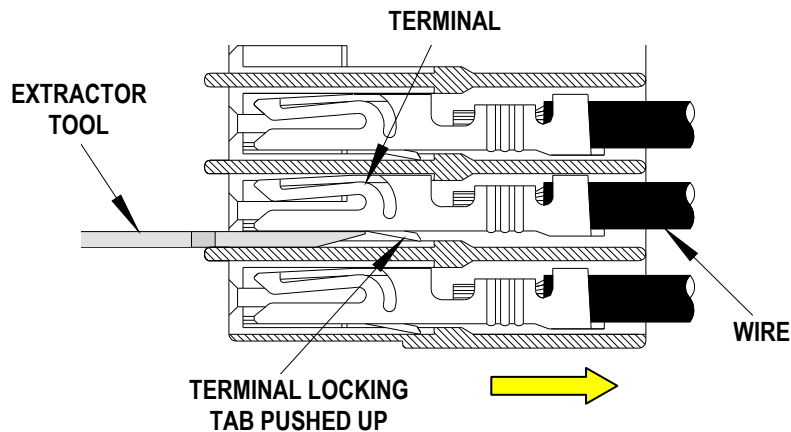

Figure 18
3. Pull the wire and terminal back through the Connector slot in the arrow direction as shown. See Figure 18.